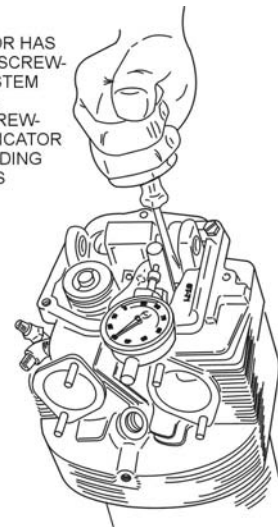

Figure 10. Pushing Valve Stem and Adapter Post Toward Dial Indicator to Establish Valve Guide Condition
5. Insert the screwdriver between the fixture and valve spring on the opposite side and push the valve spring toward the dial indicator as shown in Figure 10. Relax the screwdriver and record the reading on the dial indicator. The measurement should be within the limits specified in the table with PART 1. If not, perform the required repair procedure as described in PART 1.